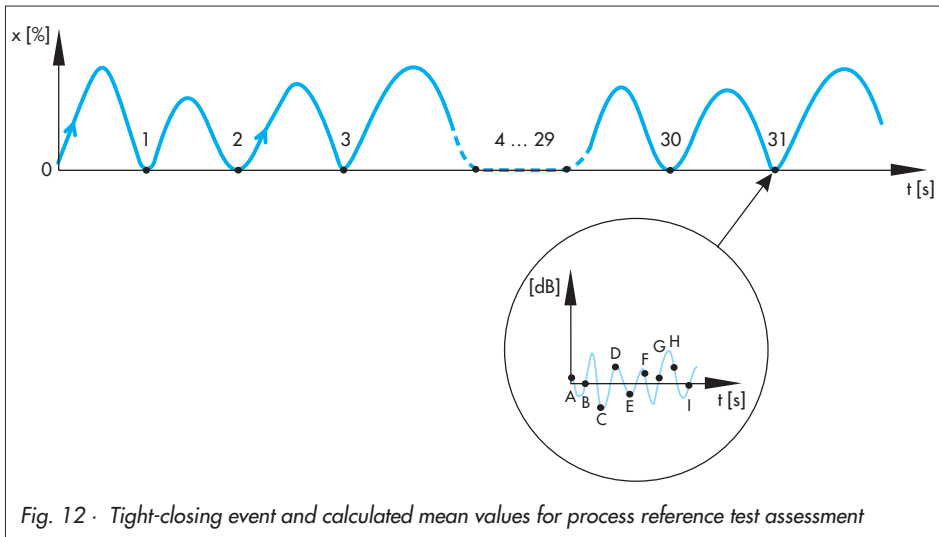

Fig. 12 · Tight-closing event and calculated mean values for process reference test assessment
- ▶ **Very quick:** The mean value calculated from the current sound level and from the last four sound levels measured while the valve is tightly shut is used for monitoring (Fig. 12: Tight-closing event 31 and sound level E to I).
- ▶ **Quick:** The mean value calculated from all sound levels measured while the valve is tightly shut is used for monitoring (Fig. 12: Tight-closing event 31 and sound level A to I).
- ▶ **Slow:** The mean value calculated from the last thirty sound levels measured during short-term monitoring (refer to section 9.2) is used for monitoring (Fig 12:
- **Very slow:** The mean value calculated all the sound levels measured during long-term monitoring (refer to section 9.3) is used for monitoring (Fig. 12: Tight-closing event 1 to Tight-closing event 31 with all sound levels).